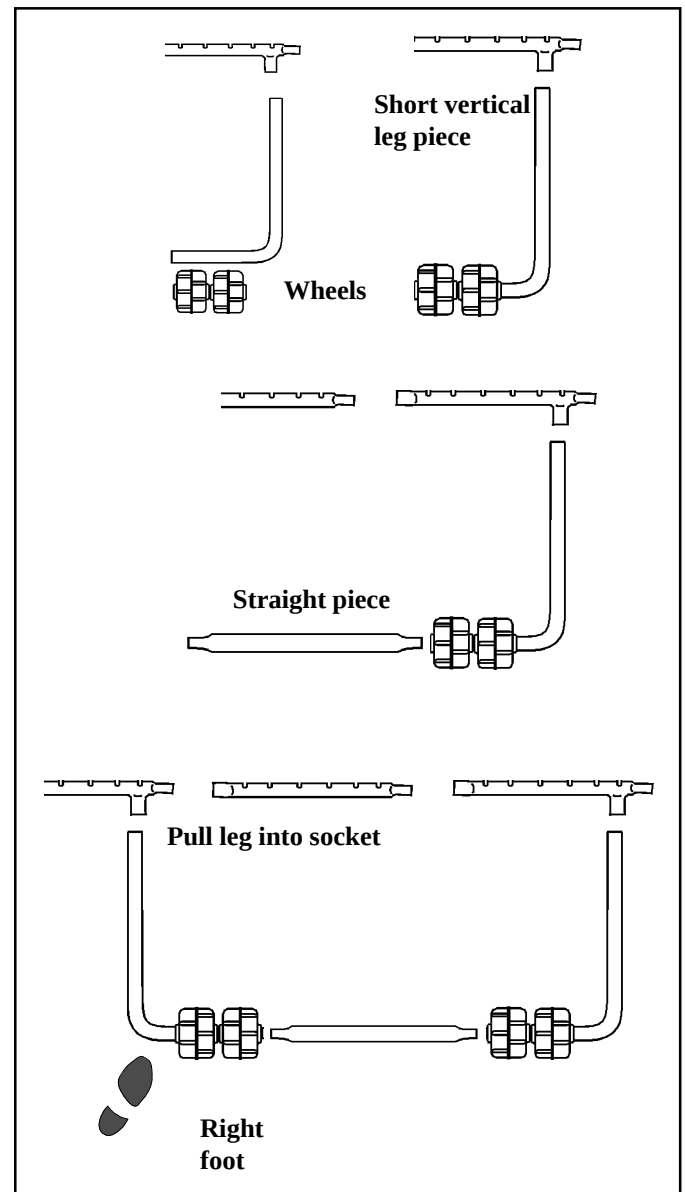

FIGURE 4
We are now going to install the wheels using the same procedure we used on the prior three (3) leg supports. Refer to Figure 4.